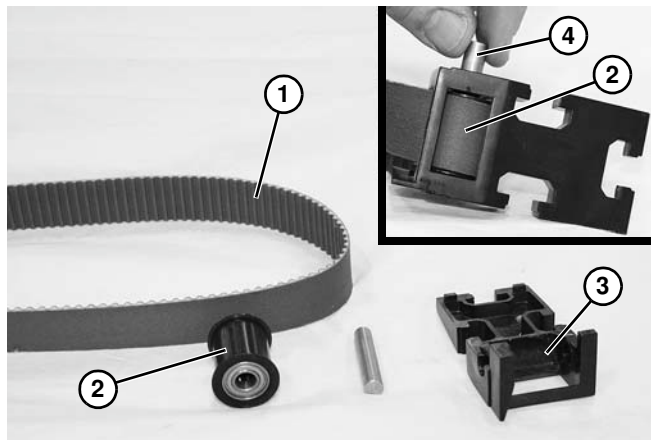

Figure 5
1. Loop belt (**Figure 5, item 1**) around roller assembly (**Figure 5, item 2**). Insert roller assembly into end cap (**Figure 5, item 3**). Insert roller pin (**Figure 5, item 4**) into roller assembly.